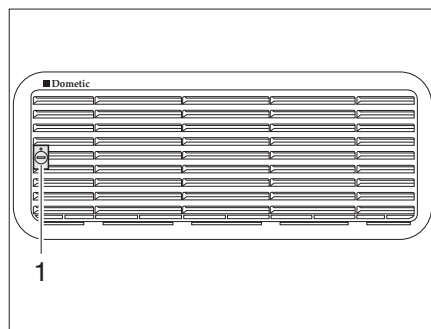
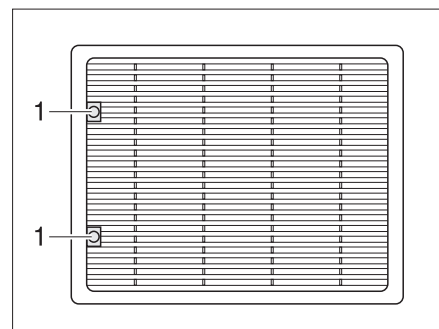

Fig. 347 Refrigerator ventilation grill (Dometic small)
Fig. 348 Refrigerator ventilation grill (Dometic large)
- Turn screw (Fig. 347,1 or Fig. 348,1) one quarter turn using a coin.